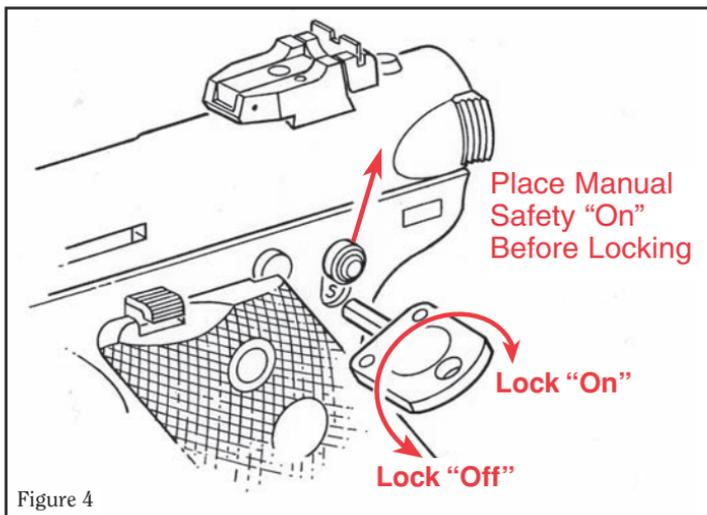

Figure 4
To activate the internal lock, place the manual safety in the "on" or "safe" position. (Note that the pistol must be cocked to engage the safety.) Next, place the internal lock key (supplied with your pistol) into the internal lock keyway. (See "Nomenclature," p. 7.) Rotate the key fully clockwise (about 1 3/4 of a rotation from the fully unlocked position) until it stops. (See Figure 4.) Remove the key and verify that the internal lock engaged by attempting to move the safety to the "off" or "fire" position. If the internal lock is engaged, you will not be able to move the safety to the "off" or "fire" position.
To deactivate the internal lock, place the internal lock key into the internal lock keyway (see "Nomenclature," p. 7) and rotate the key counter-clockwise (about 1 3/4 turns from the fully locked position) until it stops. (See Figure 4.)
7. **Don't touch the trigger.** Pull the bolt to the rear as far as it will go. (See Figure 4, above.) Release the bolt so that it will fly forward. (On 22/45 models, the bolt stop must also be depressed to permit the bolt to fly forward.) This will place a cartridge into the firing chamber. **If the pistol is not to be fired immediately, the safety button should remain “on” — with the “S” showing.** (See Figure 6, p. 13.)